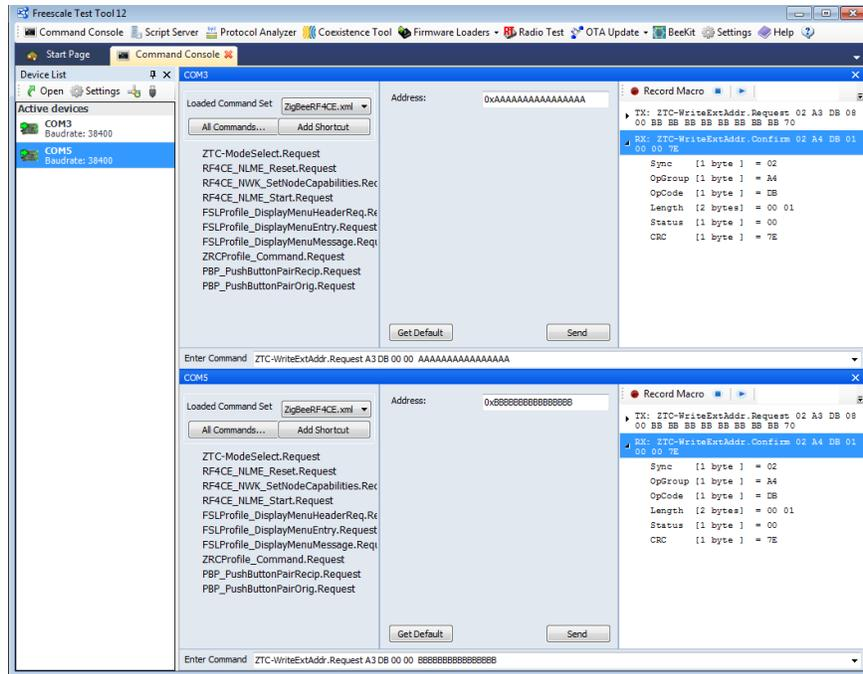

Figure 4-4. Send ZTC-WriteExtAddr.Request command
7. From Test Tool Command Console tool bar, click on All Commands ->ZTC Commands->ZTC-WriteExtAddr.Request command and set on both devices the IEEE address of the nodes as shown in Figure 4-4. For this example, use the address `0xAAAAAAAAAAAAAAAA` for first device from the list of active devices and `0xBBBBBBBBBBBBBBBB` for the second device.